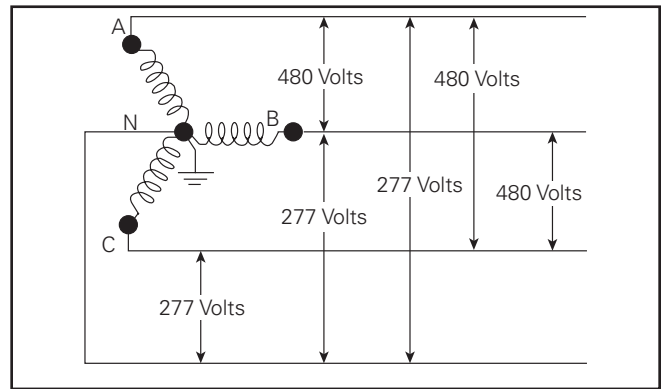

Figure 2. Wiring For 480V Wye Systems
- 2b. Only for use with 480V Wye systems. Per NEC, not for use with ungrounded systems, impedance grounded systems or corner grounded systems (commonly known as Three Phase Three Wire Delta, Three Phase High Leg Delta and Three Phase Corner Grounded Delta systems). (Figure 2.)